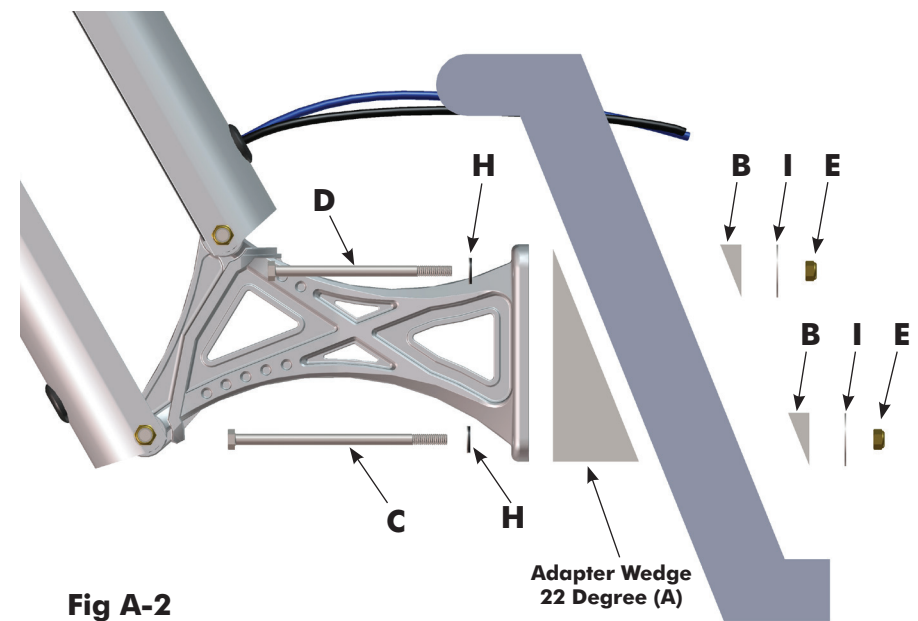

Fig A-2
5. Fasten the stern bracket to the transom using the listed hardware below **Fig A-2**. The (4) Neo-bond washers (H), (4) 5/16" Fender washers (I) and (4) 5/16" tall Brass lock nuts (E) are provided with the Power-Pole hardware. The rubber backed neo-bond washers are to protect the powder coated surface of the stern bracket. **Do Not Overtighten.**